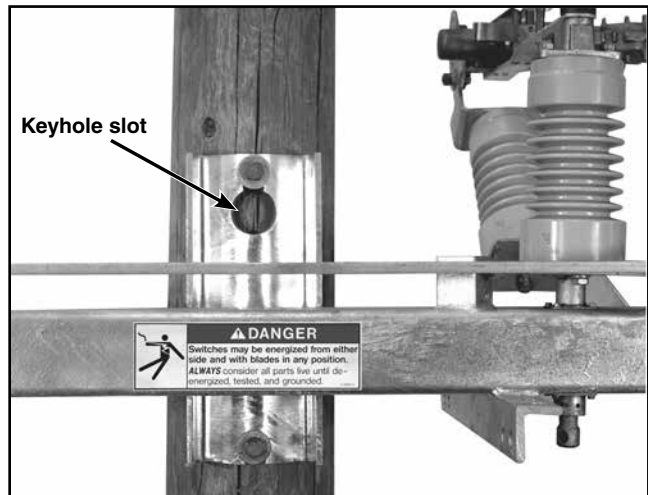

Figure 8. Guiding the switch.
STEP 6. Guide the switch so the through-bolt heads enter into the keyhole slot and open slotted hole in the switch base. See Figure 8.